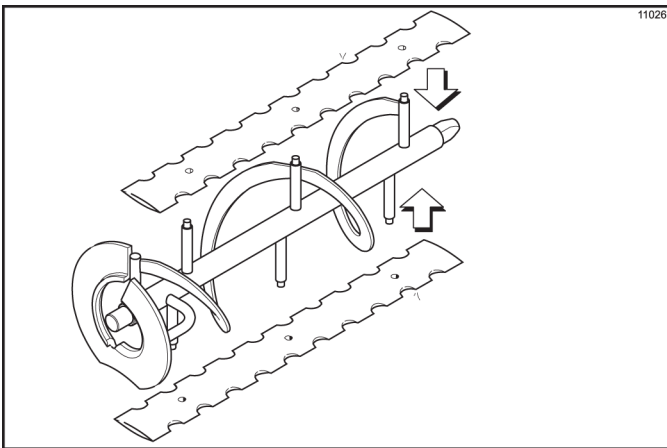

Figure 6-5
4. If blades are in good condition, place each scraper blade over the holding pins on the beater assembly. (See Figure 6-5.)